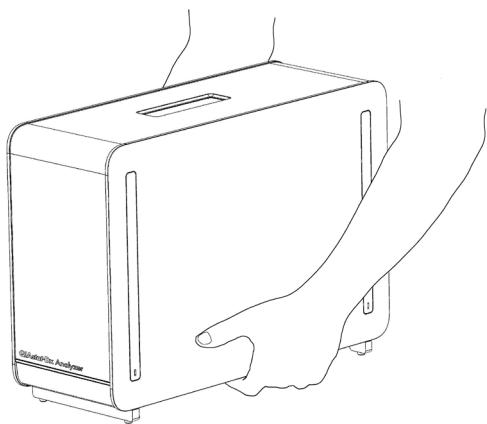

Figure 1. Proper handling of Analytical Module.
**Note:** The Analytical Module must be lifted and handled by taking it from the base with two hands, as shown in Figure 1.